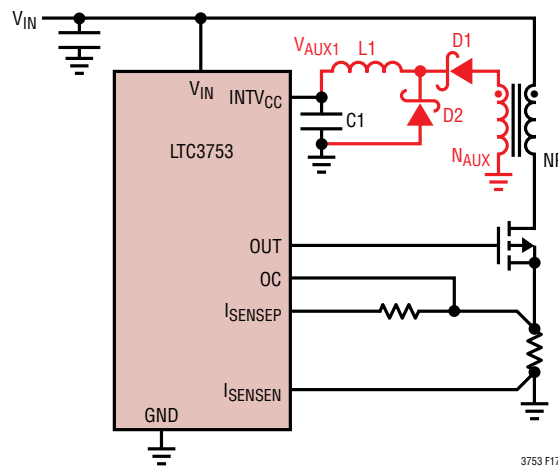

Figure 17. Primary-Side Bias V_{AUX1} (N_{AUX} , $L1$, $D1$, $D2$)
internal linear regulator is a limiting factor in the forward converter design, then a primary-side bias (V_{AUX1}) can be generated to overdrive the $INTV_{CC}$ pin (Figure 17). V_{AUX1} is generated using an extra winding (N_{AUX}) from the main power transformer in combination with an inductor ($L1$) and two Schottky diodes ($D1$, $D2$) to generate a buck-derived supply. A 1mH inductor will usually suffice and should be chosen to handle the maximum supply current required by $INTV_{CC}$. See also the section $INTV_{CC}$ Regulator Bypassing and Operation in the Applications Information Section.
- (2) Use a buck-derived bias using an extra winding from the main power transformer (similar method as Figure 17, applied to secondary-side circuitry)